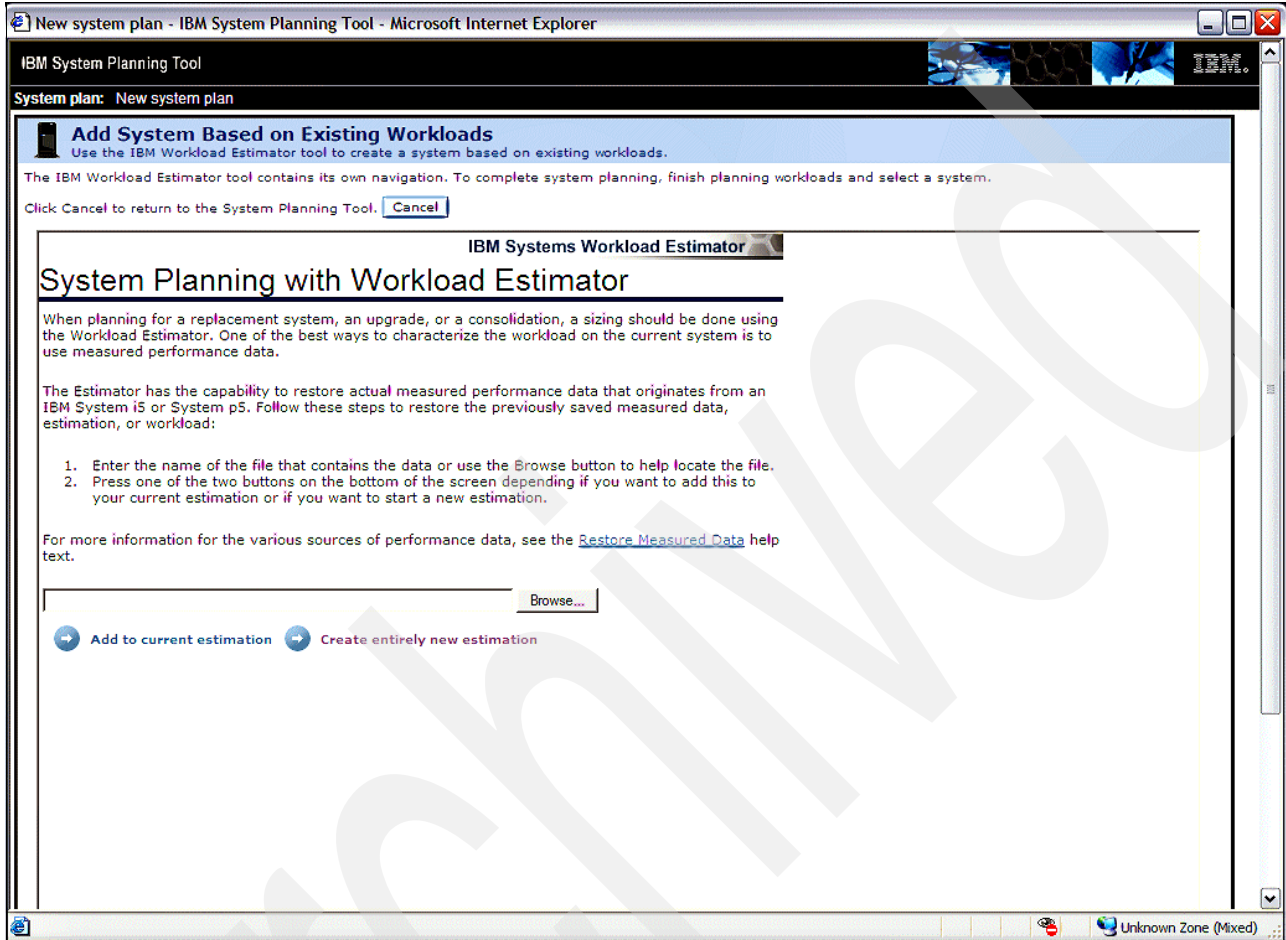

Figure 5-2 Import the performance data from the PM tool
1. You need to load the PMdata into WLE. The window to start loading the data looks the same if you start in WLE except there is no mention of the SPT V2. Figure 5-2 shows the interface window.